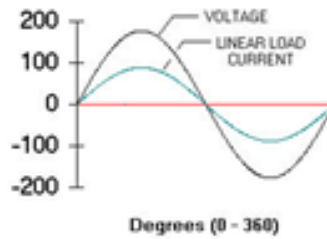

Figure 1. Voltage and current waveforms for linear
- In general, this means that the current wave shape will be the same as the voltage (See Figure 1). Typical examples of linear loads include motors, heaters and incandescent lamps.